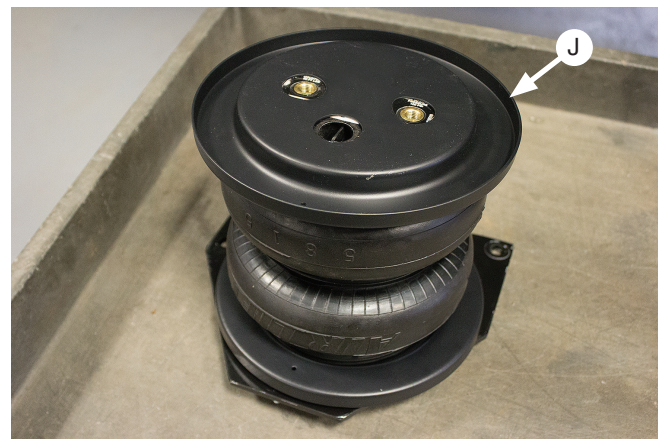

Fig. 9
3. Flip the assemblies over and set a roll plate (J) onto the bottom of the air spring (Fig. 9).